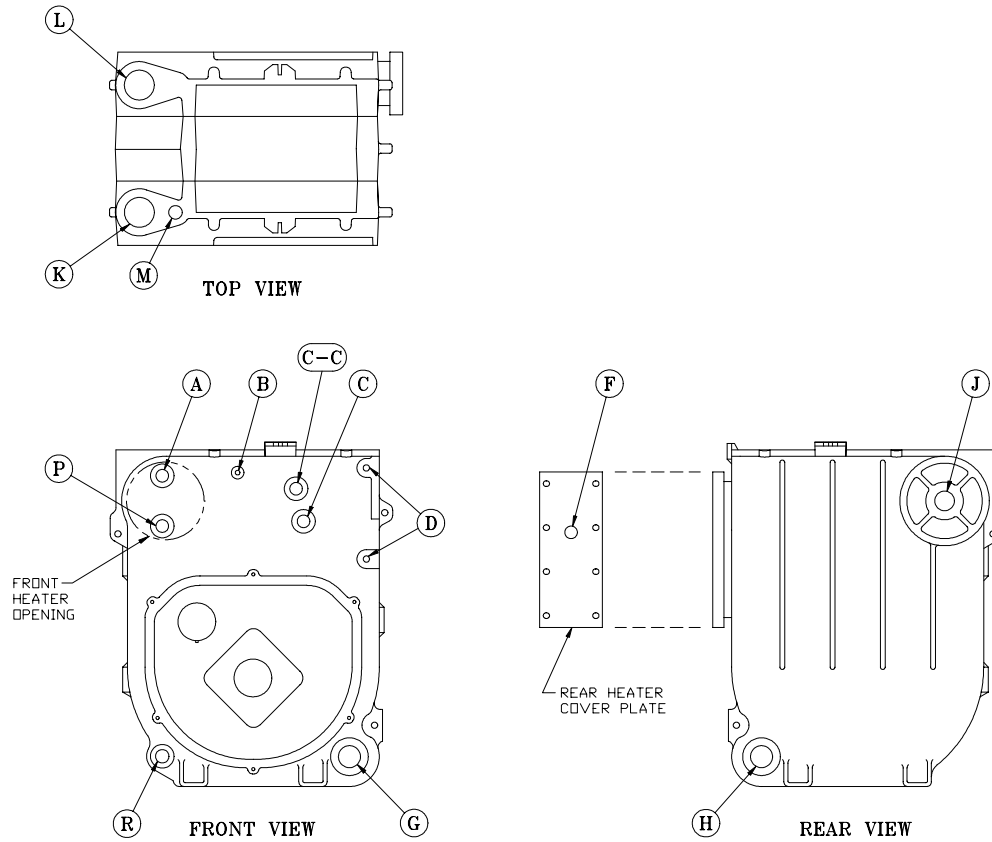

Figure 4: Boiler Tapping Locations and Usage (Knockdown Boilers Only)
D. DRAIN WATER FROM BOILER. Remove gauge, valve and plugs from those tappings to be used. Leave other tappings plugged or bushed according to Figure 4.
4. Secure canopy to boiler with two (2) 1/4" - 20 x 3" lg. carriage bolts, 1/4" flat washers and 1/4" - 20 wing nuts provided.
H. INSTALL the following steam or water trim that would be concealed or inaccessible after flush jacket is installed, see Figure 4 for boiler tapping locations and usage.